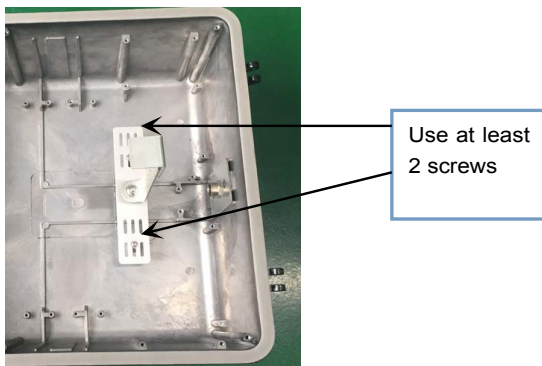

FIG.11
2. Mount the bracket with flat plate to fixture (See FIG.11 for an example).